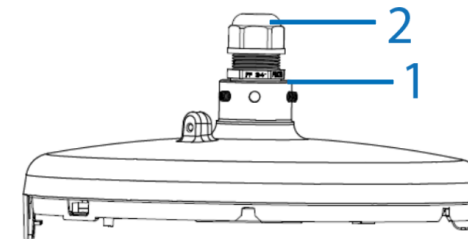

Figure 8
14. Insert all cables into the hole on top of the pendant cap (1) (Figure 8) and securely insert the waterproof connector (2) (Figure 8) to the pendant cap.